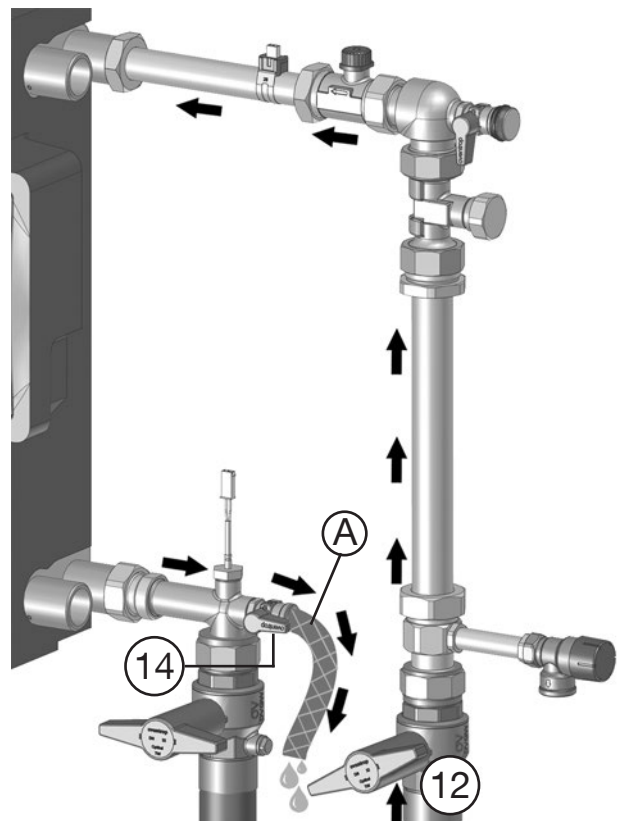

Fig. 5.4: Start the reflushing process with potable water
- Connect the drainage hose (A) for potable water to the lower fill and drain ball valve (14) (Fig. 5.4).
- Open the isolating ball valve (12) slightly to start the flushing process with potable water.
- Close the fill and drain ball valve (14) after at least one minute.
- Remove the drainage hose (A).